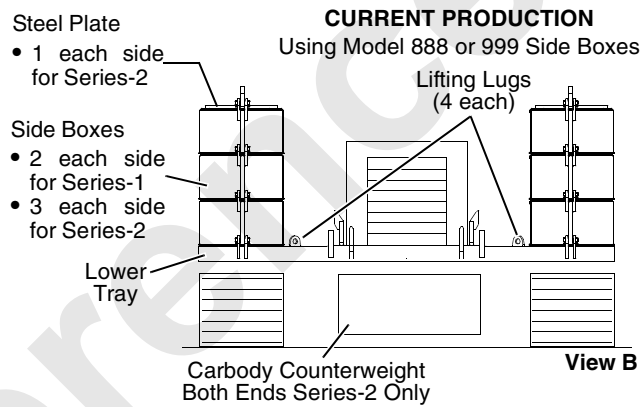

FIGURE 4-8
2. Assemble upper counterweights as shown in Figure 4-8, Views A and B:
- a. Lift lower tray onto ground and level it with blocking. Lift at four lifting lugs on lower tray (Figure 4-8, View A or B).
- b. Lift side boxes into position and pin to lower tray (Figure 4-8, View A-A) — lift at connecting pins
- c. Lift remaining side boxes into position and pin to each other (Figure 4-8, View A-A).